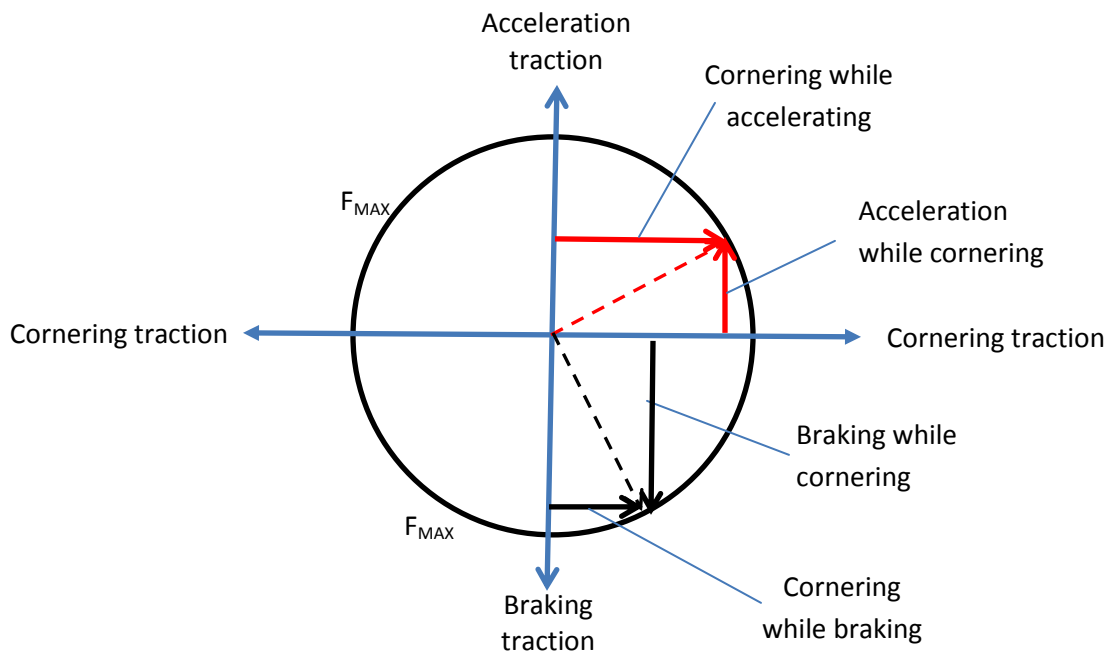

Figure 2: Friction circle for understanding traction limits
Equation 2 shows that as the weight on the tire increases, or the coefficient of friction increases, the ability to gain traction force (F) increases. Since there is only so much downforce available on the race car, which includes the weight AND the aerodynamic force, putting the proper force on each tire, at the proper time, optimizes the acceleration and cornering forces. A friction circle is a simple way to show how these forces interact. The circle in Figure 2 shows the limits of traction. It is a circle because sliding is sliding and, whether it is sideways or wheel lock-up, it is close to the same value (there are some differences but not enough to mention here). So what this shows is when you are accelerating you take away some of the ability to corner. When you are cornering hard you can only have a small acceleration capability. However, if all tires on the car are not at the limits of their individual friction circles, suspension and steering tuning helps you enter deeper, maintain greater speed through the turn and pick-up the throttle where others may not be able to.